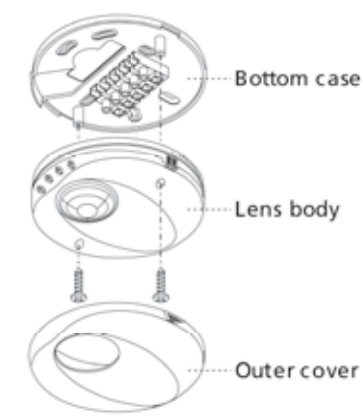

Fig. 8
3.3.3 Remove cardboard and screws used to assemble and fix the sensor (see Fig. 8).
3.3.5 Insert the lens body pins into the bottom case contacts, fasten it with screws firmly and snap on the outer cover (see Fig. 8).